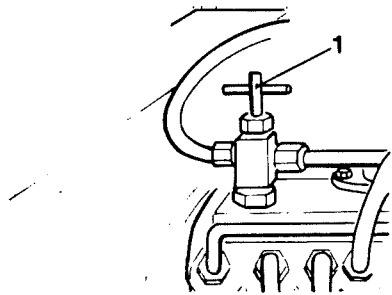

Fig 34 Bleeding fuel system
- 4 Tighten the bleed screw (1), fig 34.